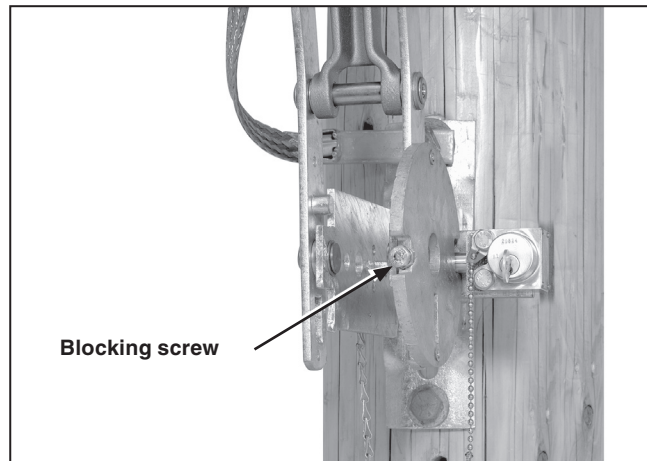

Figure 26. The blocking screw in the interlock disc.
STEP 26. Block one of the two slots in the locking disc with the blocking screw provided. (The slot to be blocked depends on whether a locked-open or locked-closed arrangement is required.) See Figure 26.